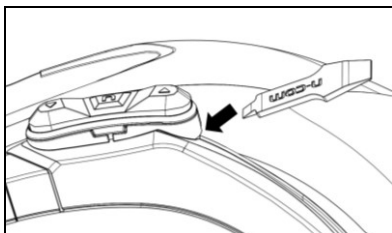

Fig. 26
- Remove the keypad from the shell, as indicated in Fig. 26.